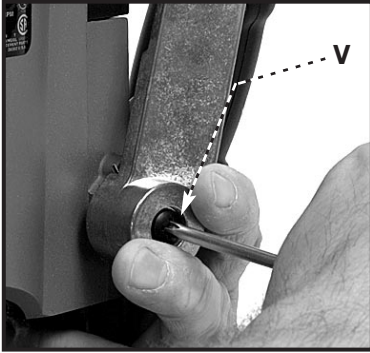

Fig. 9
1. Hold the lever in the upright position (see Fig. 9). Use a phillips screwdriver to remove retaining screw (V) Fig. 9. **Continue** to hold the lever through the remaining steps.